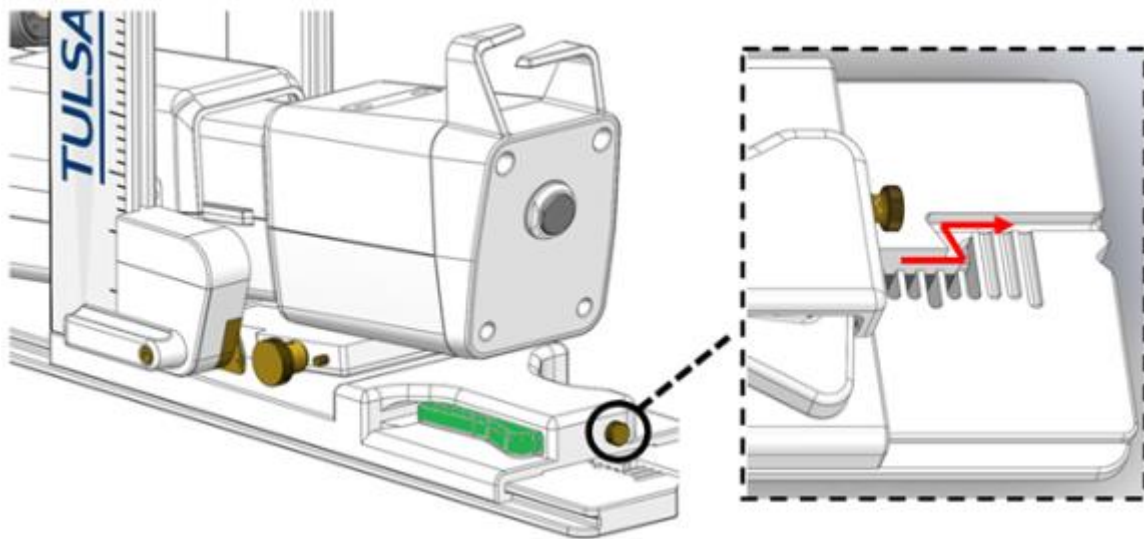

Figure 61: Removing PS from base plate
1. Remove the PS from its notched base plate by partially unscrewing the thumbscrew located on the rear of the PS base and depressing the horizontal adjustment lever through the Z channel at the rear of the PS base (*Figure 61*).